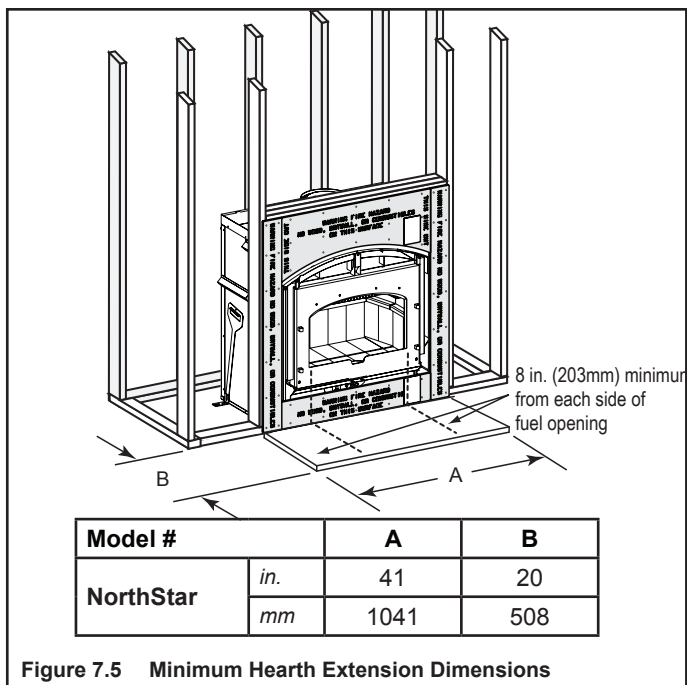

Figure 7.5 Minimum Hearth Extension Dimensions
- Refer to Figure 7.5 for minimum dimensions.
Non-combustible flooring a minimum of 20 in. (508 mm) in front of and 8 in. (203 mm) to either side of the fuel opening is required as shown in Figure 7.5.
Non-combustible flooring a minimum of 20 in. (508 mm) in front of and 8 in. (203 mm) to either side of the fuel opening is required (see Figure 7.5).